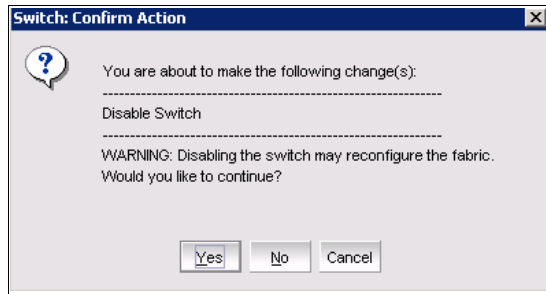

Figure 12-60 Confirmation window
3. Select **Yes** in the confirmation window, as shown in Figure 12-60.